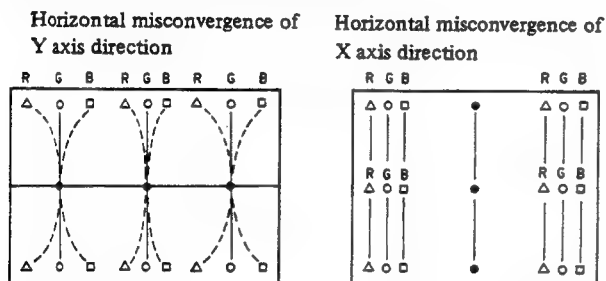

Figure 17
This is a simple explanation of the convergence system in Super fine Trinitron picture tube used in this model. The Deflection Yoke (DY) used in this model generates an almost uniform magnetic field in order to get fine beam spot size. Accordingly basically misconvergence of horizontal direction as shown in Figure 17 is generated on the picture screen.